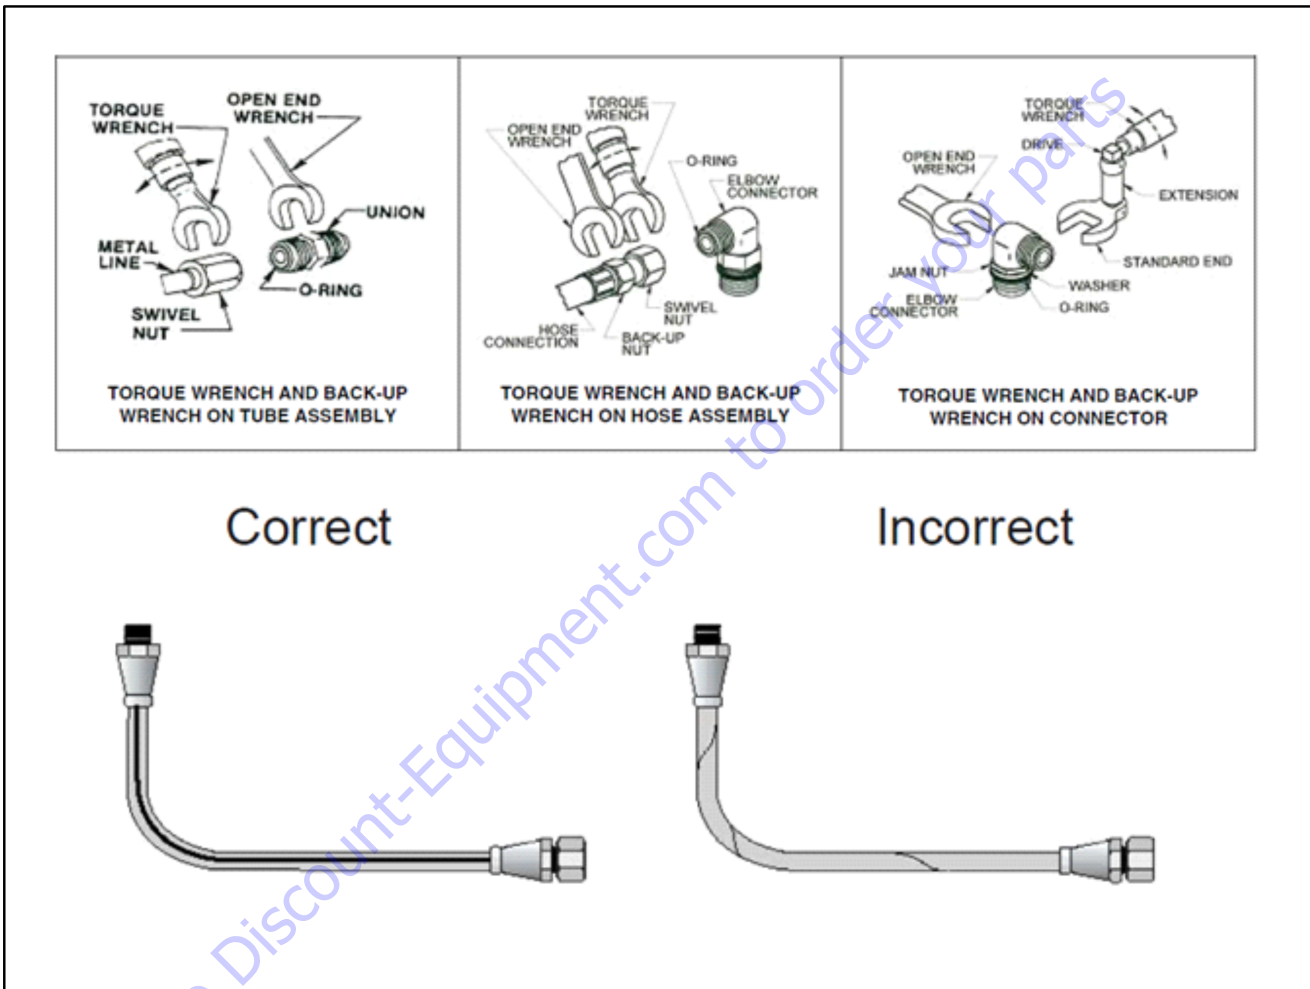

Figure 5-12. Double Wrench Method
the 'layline' printed on the hose is a good indicator of proper hose installation. A twisted lay-line usually indicates the hose is twisted. See Figure 5-12. for double wrench method requirements.
2. Mark a dot on one of the swivel hex nut flats and another dot in line on the connecting tube adapter. See Figure 5-12.
3. Use the double wrench method per Appendix A, turn the swivel nut to tighten as shown in Figure 5-12. The nut is to be rotated clockwise the number of hex flats as defined by the applicable Table in Section 5.0.